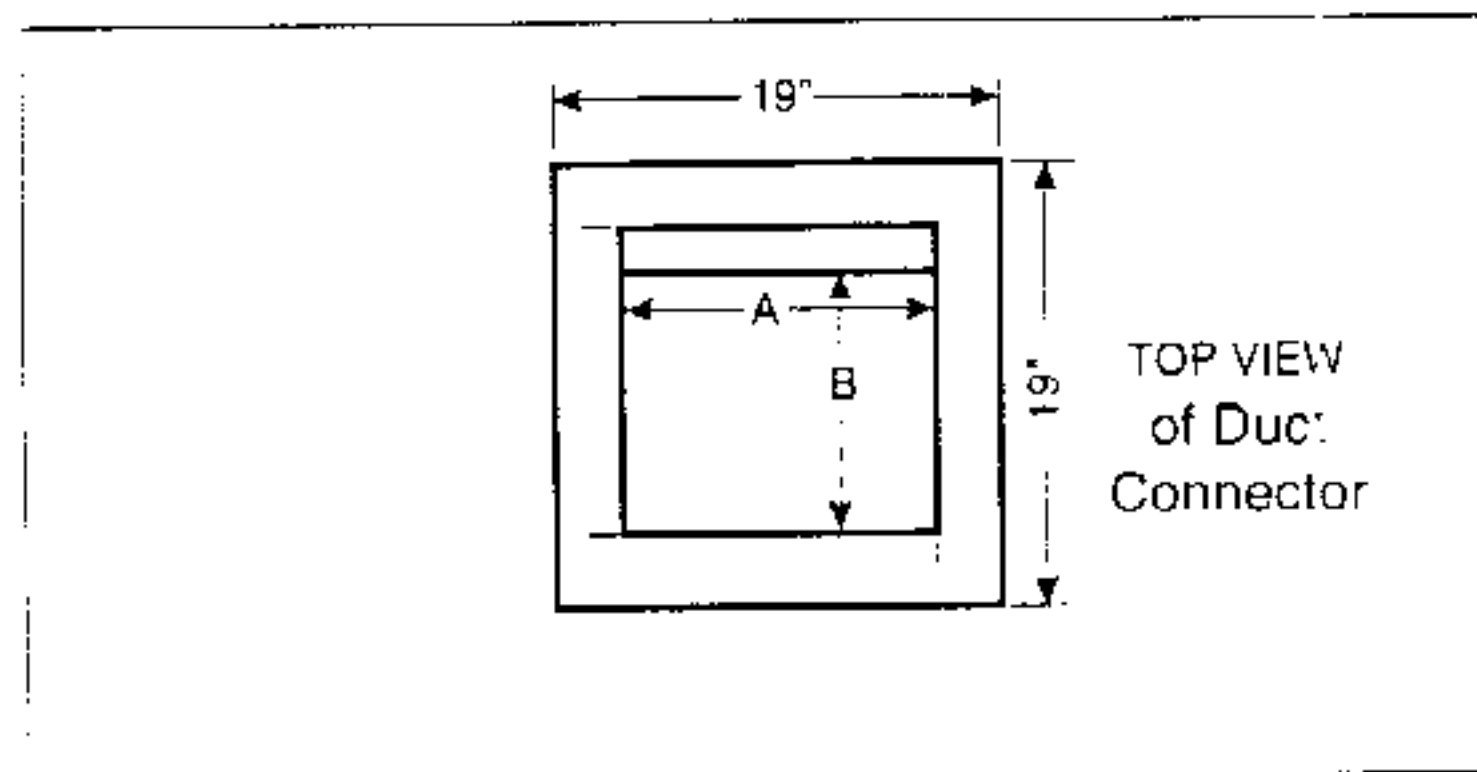

Figure 11.
- Locate center of the floor opening, measured 10" from the rear wall, and mark cutout measuring approximately 14-1/2" by 14-1/2" for model duct connector used (refer to Figures 11 & 12).